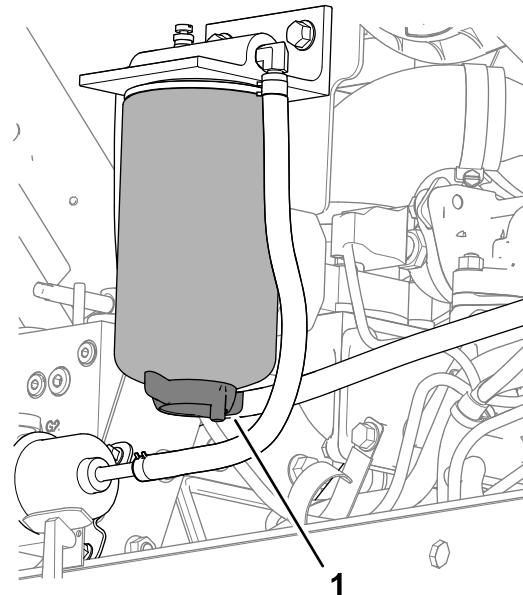

Figure 128
3. Place a drain pan under the fuel-water separator filter (Figure 128).